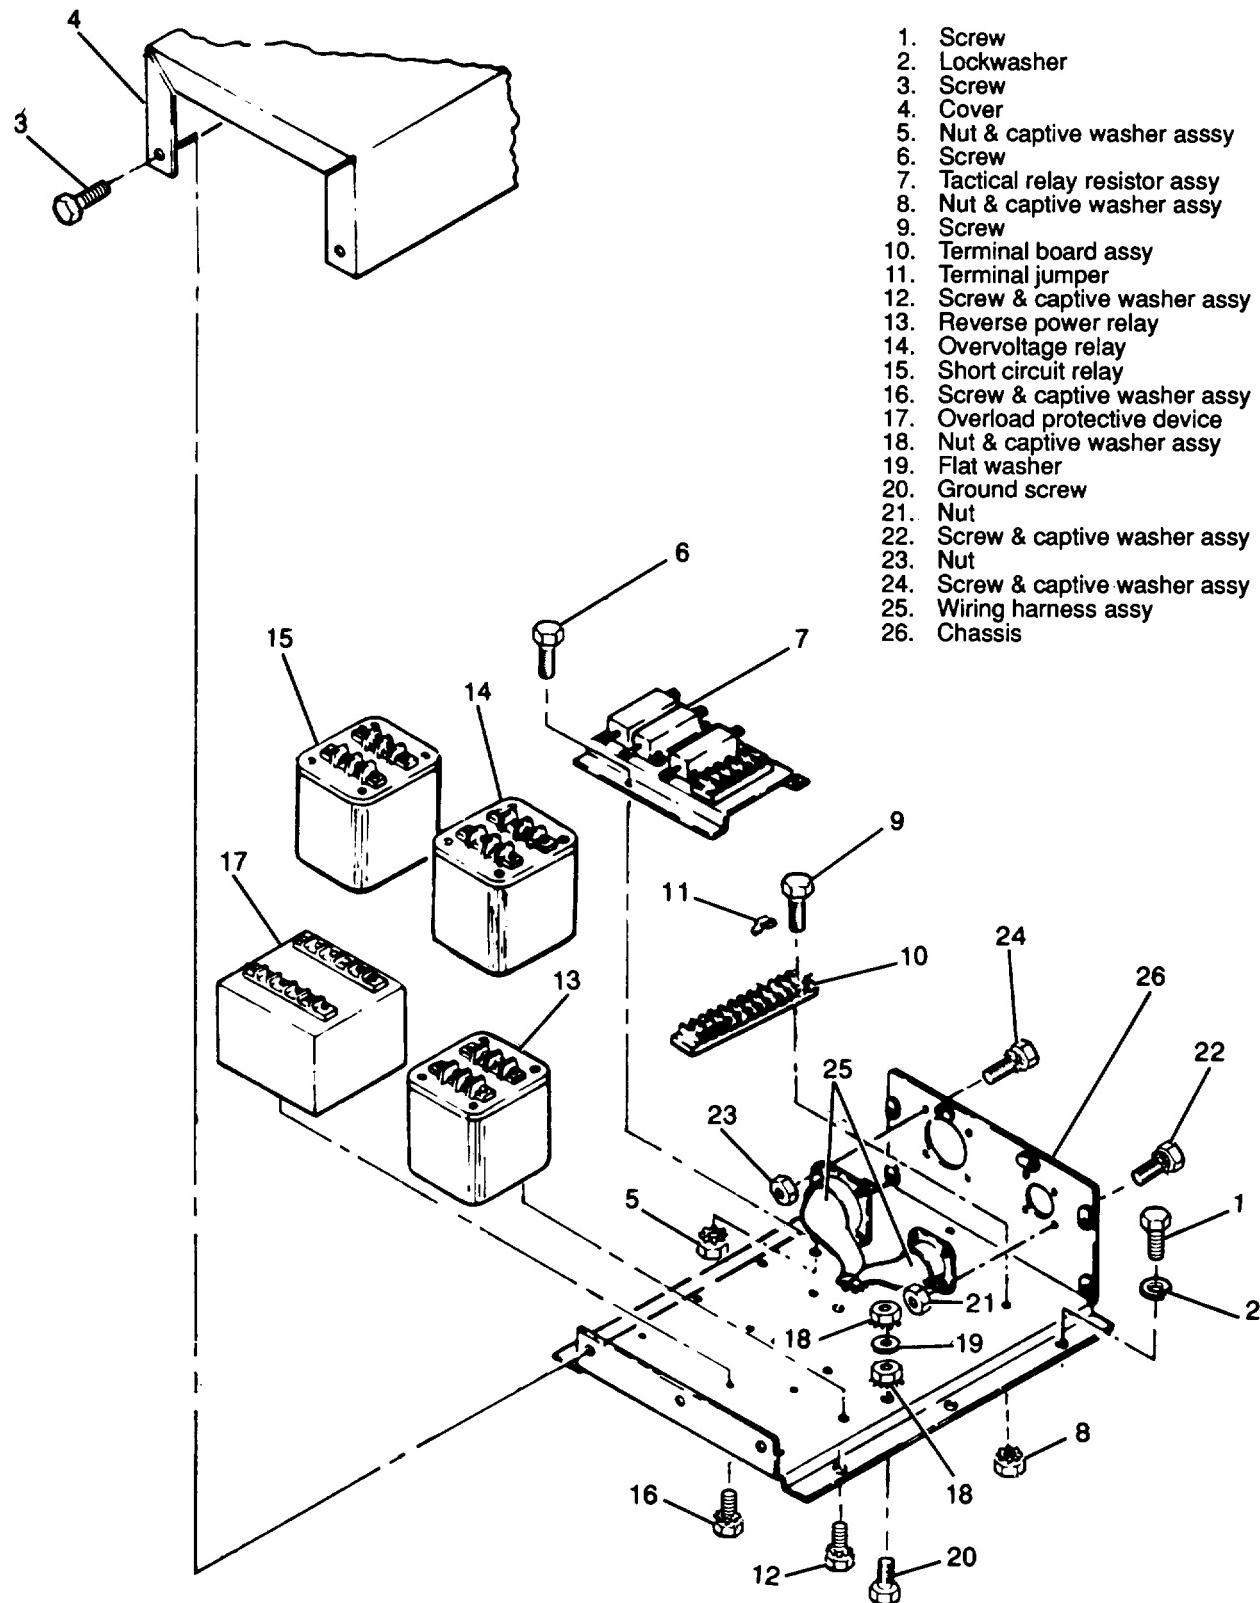

Figure 3-111. Tactical Relay Assembly, Exploded View
- (1) Disconnect electrical connectors to the tactical relay assembly.
- (2) Remove screws (1, figure 3-111) and lockwashers (2) to remove relay assembly from generator set.
- (1) Remove screw (1, figure 3-111), and lockwasher (2).
- (2) Remove screw (3), and cover(4).
- (3) Remove nut & captive washer assembly (5), screw (6) and tactical relay resistor assembly. (7).
- (4) Remove nut & captive washer assemly (8), screw (9), terminal board assembly (10) and terminal jumper (11).
- (5) Remove screw & captive washer assembly (12), reverse power relay (13), overvoltage relay (14) and short circuit relay (15).
- (6) Remove screw and captive washer assembly (16) and overload protective device (17).
- (7) Remove nut & captive washer assembly (18), flatwashers (19), ground screw (20), nut (21), screw& captive washer assembly (22), nut (23), screw & captive washer assembly (24), and wiring harness assembly (25), from Chassis (26).